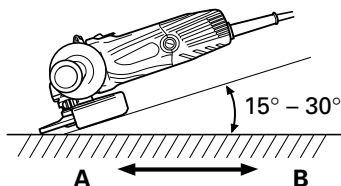

Fig. 4
4. Use proper grinding angle. Grind only with the wheel's edge by lifting the grinder 15° to 30°, as shown in Fig. 4.
5. Move the grinder in the proper direction. When using a new depressed center wheel in direction A (Fig. 4), the wheel edge may cut into the workpiece. In this case, grind in direction B (Fig. 4). Once the wheel edge is worn, the workpiece can be ground in both directions.